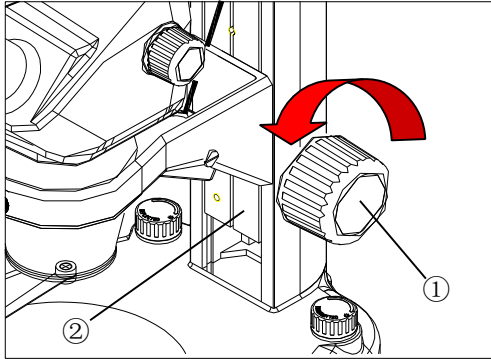
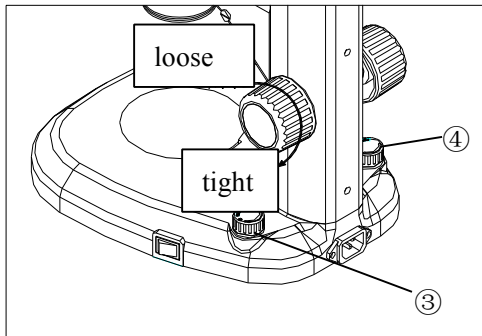

Fig 7
Fig 8
3.2.1. focusing knob adjustment (fig7、 fig8)